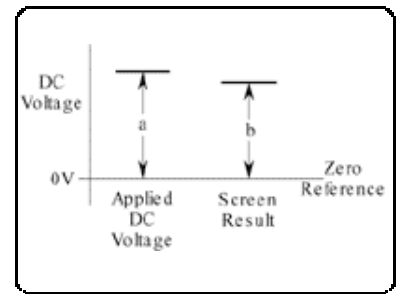
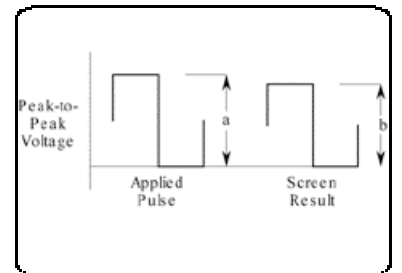

Fig. 1.2 DC Voltage - Gain
Fig. 1.3 LF Square Wave - Gain
i. With DC coupling, either a DC signal (Fig 1.2 - includes offset) or a square wave (Fig. 1.3 -can be manipulated to remove the offset) is injected, and the channel's response is measured against graticule divisions or cursor readings.